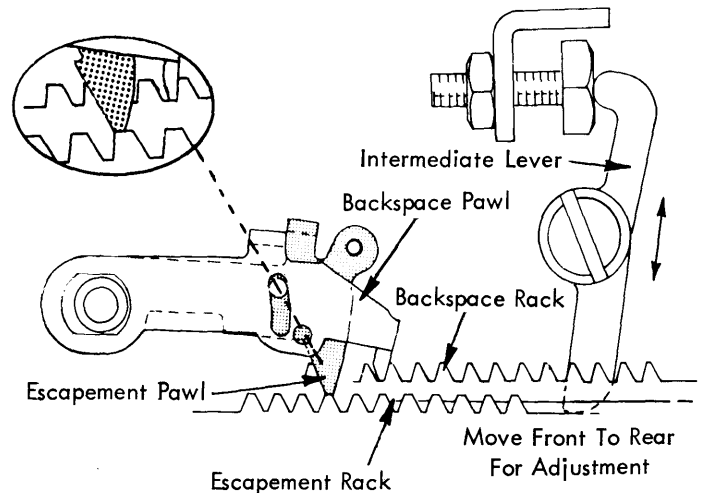

FIGURE 128. *Intermediate Lever Adjustment (Late Level)*
4. **Intermediate Lever** - With the backspace cam manually operated to the high point, the escapement pawl should just fail to drop into the preceding rack tooth causing the manual backspace operation to fail. Adjust the intermediate lever pivot screw forward or back in its elongated mounting hole to obtain this condition (Fig. 128).